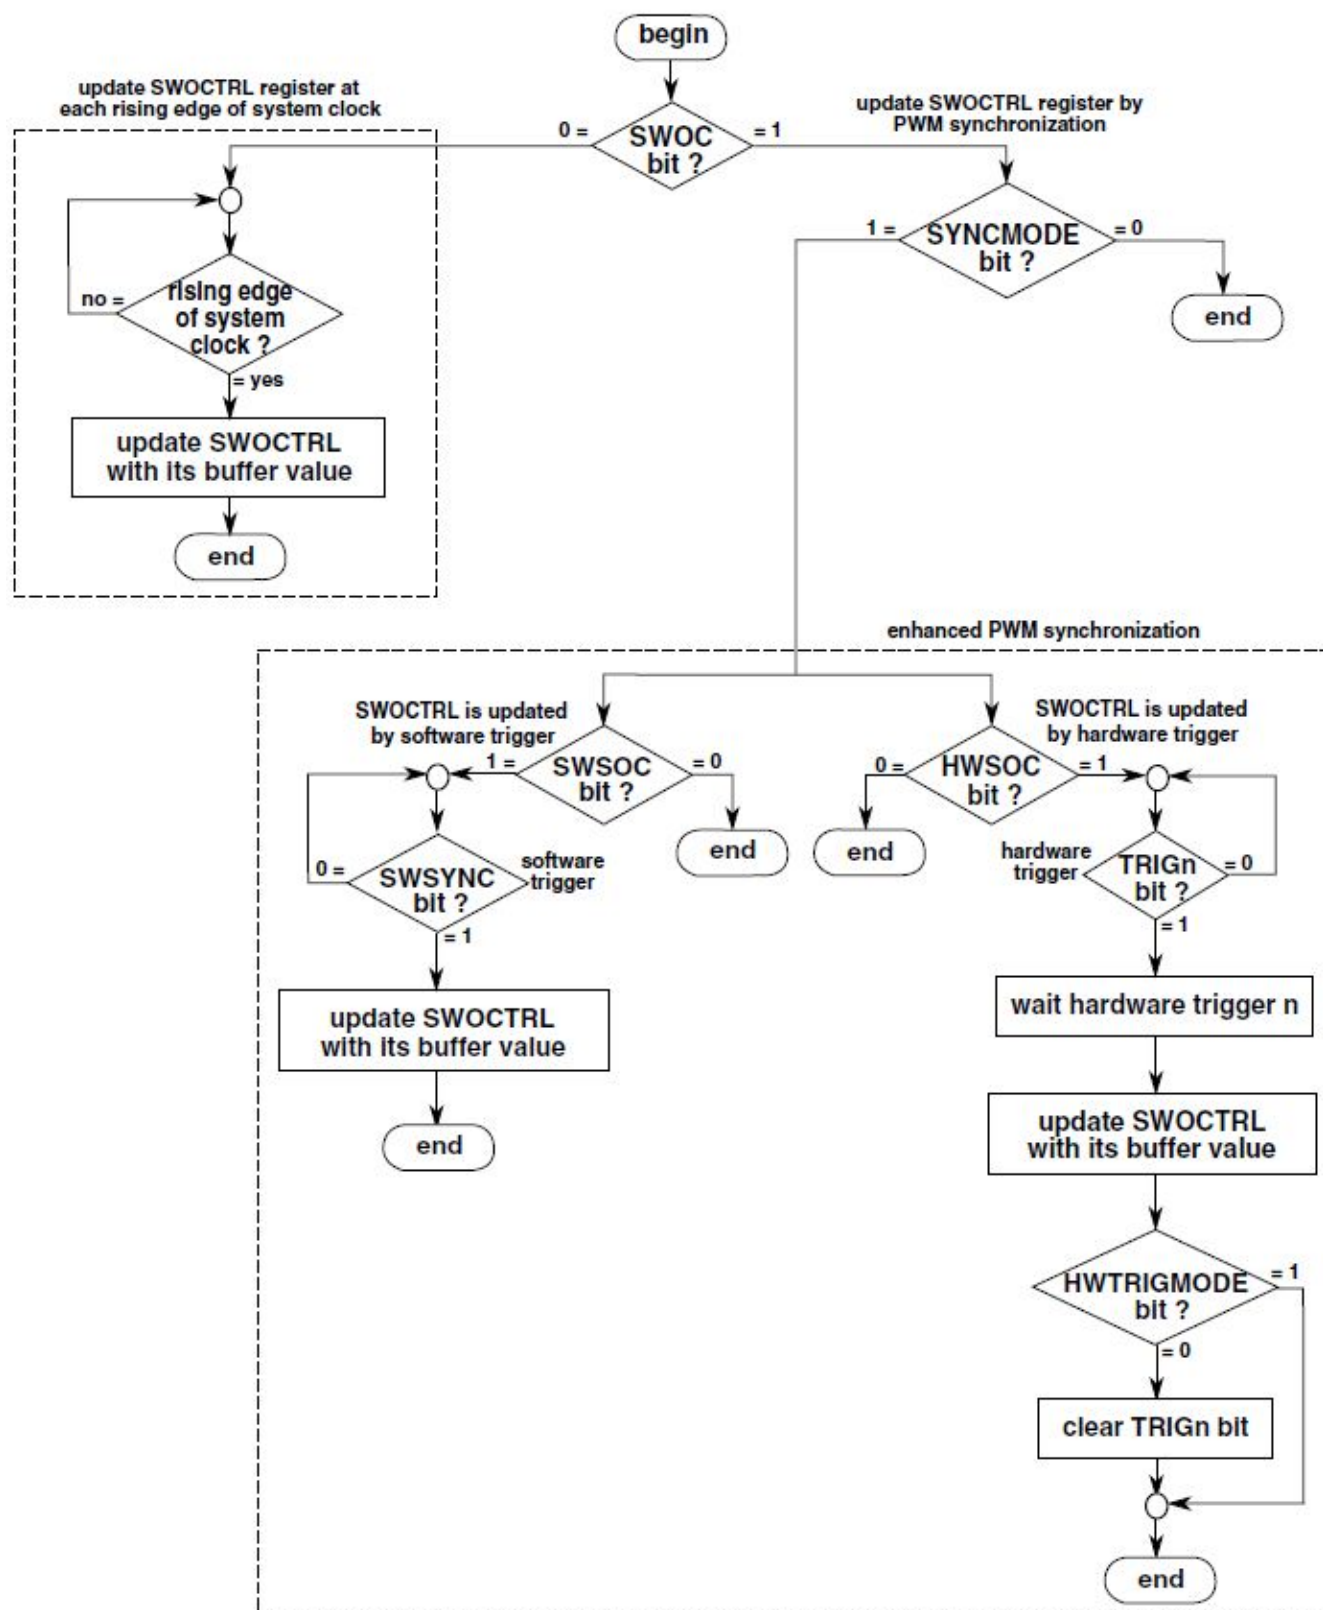

Figure 14. SWOCTRL register synchronization flowchart
- by the Enhanced PWM Synchronization when SYNCONF[SWOC] = 1 and SYNCONF[SYNCMODE] = 1, according to the flowchart shown in Figure 14.